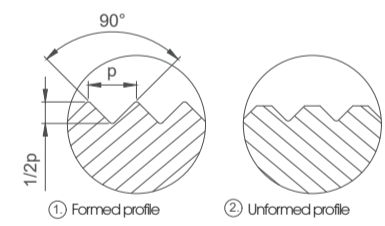

Fig. 5: Different profile pattern
The correct profile depth has been reached when the profile is knurled completely (Fig. 5, ref. 1). If the profile is not knurled (Fig. 5, ref. 2), adjust the spindles on an additional scale mark and run the workpiece through again. Running into the workpiece again is possible, because the knurling wheels catch in the existing profile.